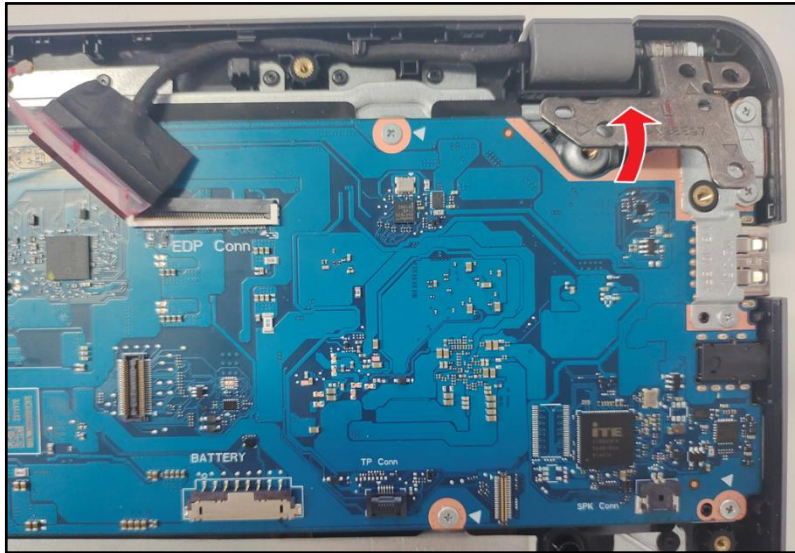

Figure 3-36. Mainboard Removal
3. Lift the left LCD hinge until it is slightly extended (Figure 3-36).